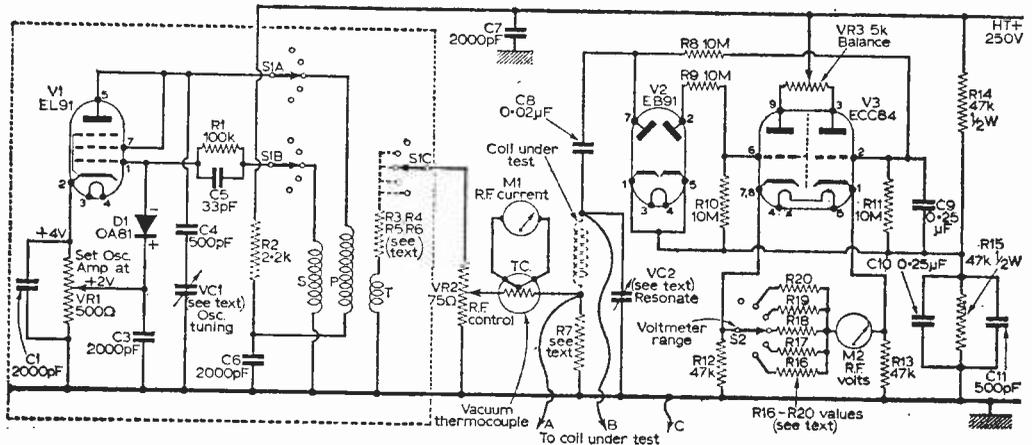

Fig. 3—The circuit.
The sound take-off in Fig. 3 comprises the tuned circuit L13, C30, C31 and TC1, and, in such a circuit, TC1 must be adjusted to provide the conditions previously described. Some sets use a dust-iron core instead of a trimmer capacitor, but the procedure for adjustment is exactly the same. The sound take-off on all sets is the tuned circuit which feeds the sound signal from the common I.F. amplifier stage to the sound I.F. valve.
The circuit diagram of the Q-meter is shown in Fig. 3. It consists of a small power oscillator in which the range required is selected by means of a Yaxley switch. Tuning is accomplished in the usual way with an air-spaced capacitor of good quality. In the prototype, this component had a maximum capacitance of about 80pF, but a larger one would not be unsuitable except perhaps on the highest frequency range, 30-50Mc/s. The oscillator has provision for amplitude stabilisation. This is necessary to minimise the amount of harmonic current generated, and the stage operates without grid current. If harmonics are present in any great quantity, it will be seen that the reading of the R.F. milliammeter will include them. But the tuned
**COMPONENTS LIST (Fig. 3)**